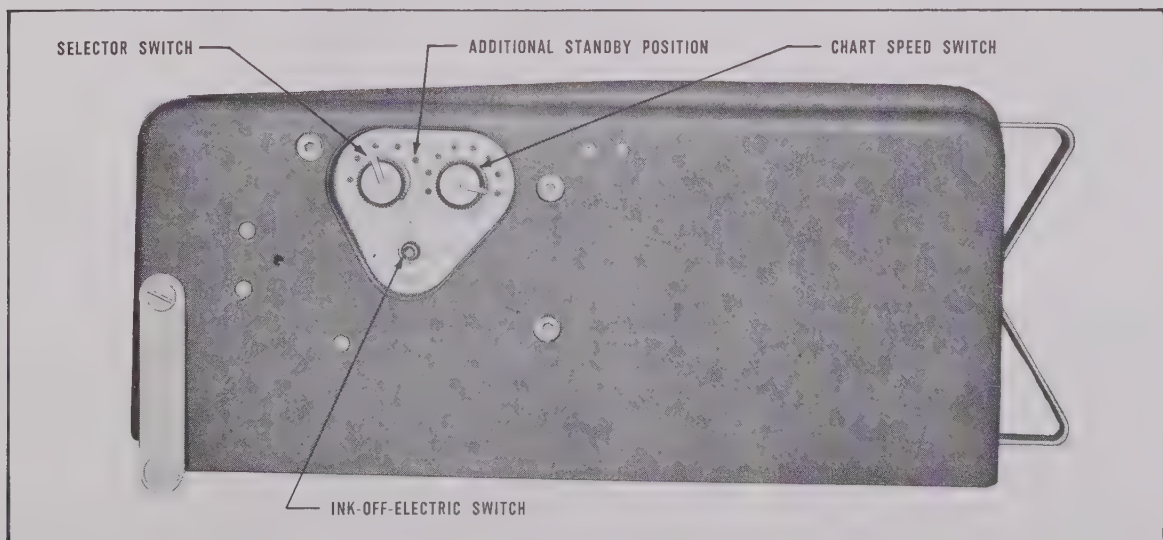

Fig. 8. Right Side of Brush Portable Six Channel Oscillograph, Model RD 2361 00
2. Turn the SELECTOR SWITCH to the STANDBY position. Fig. 8.
5. Place the INK-OFF-ELECTRIC SWITCH on the INK position. Fig. 8.
6. Select the chart paper speed desired by means of the CHART SPEED SWITCH. Fig. 8.
7. Turn the SELECTOR SWITCH to either MM/SEC or CM/HR according to the chart paper speed desired. This switch works in conjunction with the CHART SPEED SWITCH. Fig. 8.
8. Turn the SELECTOR SWITCH to STANDBY to stop the oscillograph, if operating at MM/SEC. If operating at CM/HR turn the SELECTOR SWITCH to the ADDITIONAL STANDBY POSITION to stop the oscillograph. Fig. 8. The use of the ADDITIONAL STANDBY POSITION eliminates the necessity of going through the MM/SEC position in order to stop the oscillograph when operating in the CM/HR position.
3. Place the INK-OFF-ELECTRIC switch of the oscillograph in the INK or ELECTRIC position. Fig. 8.
4. Place the SELECTOR SWITCH of the oscillograph on the position marked REM (remote). Fig. 8.